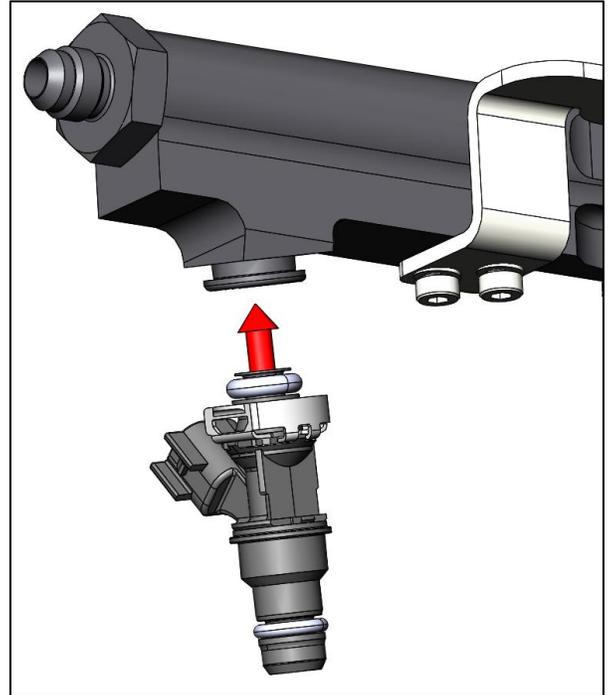

Figure 3
15. With the injector connector turned to the logo side of the fuel rail, firmly snap each injector to the fuel rail bores (**Figure 3**).